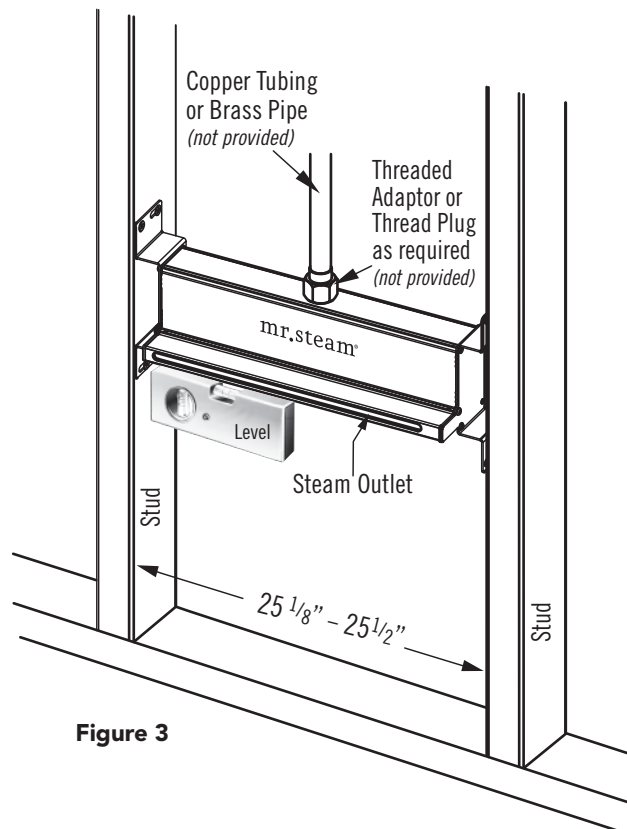

Figure 3
STEP 4. Use a level to ensure the steam head is level (see Fig. 3) and the steam head face is flush or extends $\frac{1}{8}$ " from the finished wall surface. Install the four screws in the mounting holes to secure the steam head to the studs.